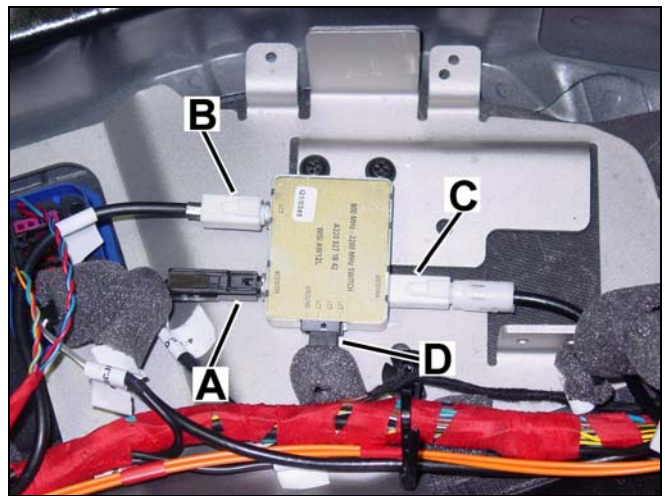

Figure 9
5. Connect the telephone lead (black, female FAKRA) to the antenna switch jack labeled "BOOSTER" (A, Figure 9).
6. Connect the Tele Aid lead (white, female FAKRA) to the antenna switch jack labeled "LCT" (B, Figure 9).
7. Connect the main antenna lead (white, male FAKRA) to the antenna switch jack labeled "ANTENNA" (C, Figure 9).
8. Connect the 4-pin power supply cable to the antenna switch (D, Figure 9).